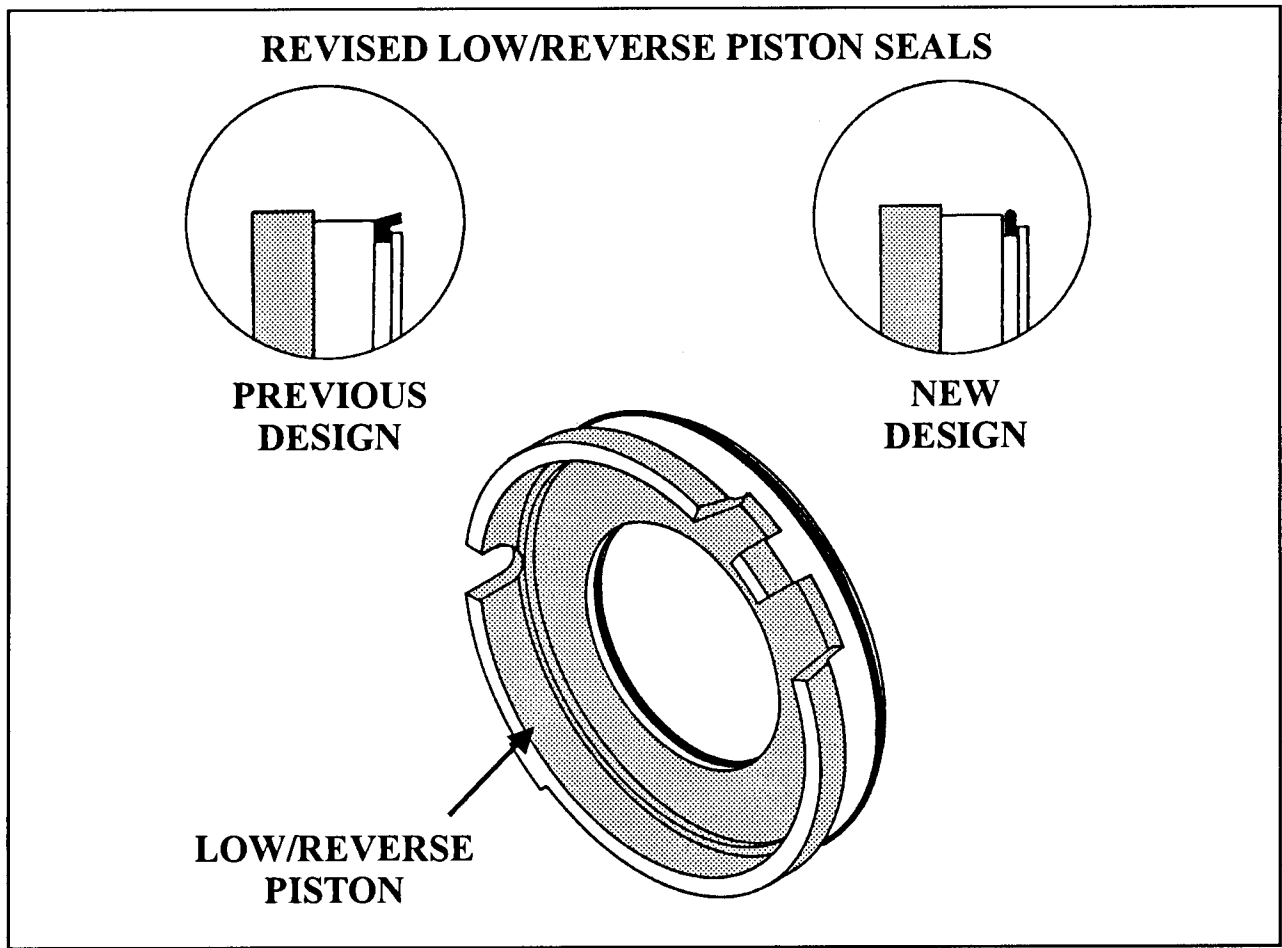

Figure 65
CHANGE: Beginning at the start of production for 1995 model year, all Chrysler A604 (41TE) and A606 (42LE) transaxles were produced using revised seals for the Low/Reverse piston. The previous "Lip" type seals have been replaced by a "D" Ring type seal for both inner and outer seals, as shown in Figure 65.
- (1) **LOW/REVERSE PISTON SEALS** - Both the inner and outer lip seals have been replaced by a "D" Ring type seal, as shown in Figure 65. There were no dimensional changes necessary to the Low/Reverse piston to accommodate the new "D" Ring seals. The seals are available under OEM part number 4659185 for the outer seal, and 4659184 for the inner seal.